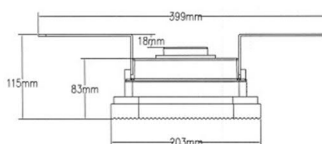

Figure 6
- ☞ Position the bracket holders and fix it by means of the provided M6 screws, 24.5 kgf-cm. (Figure 6)